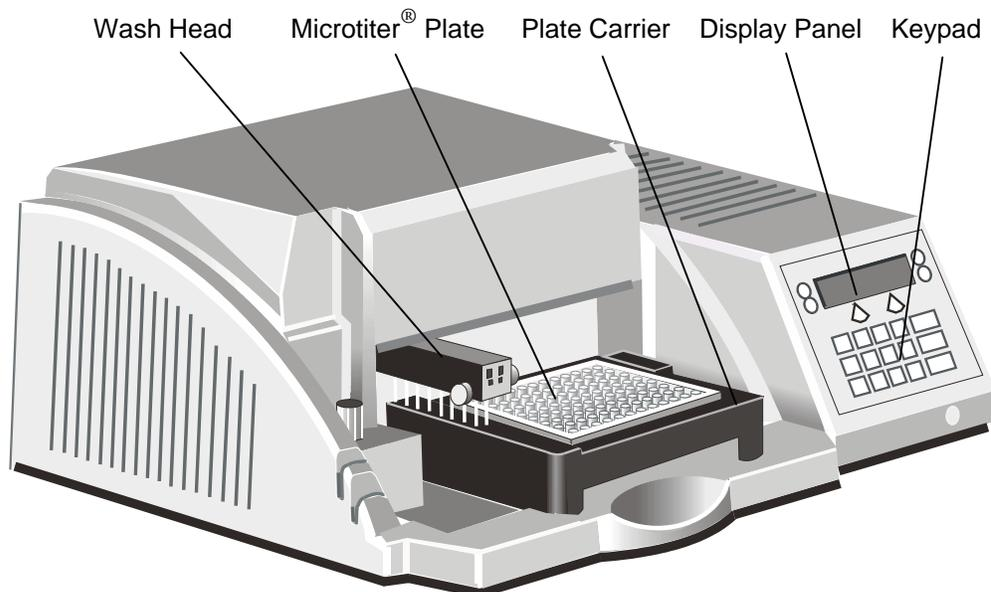

Figure 2. The Opsys MW™ System
Hardware components of the Opsys MW™ instrument are shown in Figure 2 and described below.
*Note: The Wash Container, Waste Container and Foam/Aerosol Trap are external to the instrument and are not shown in Figure 2.*